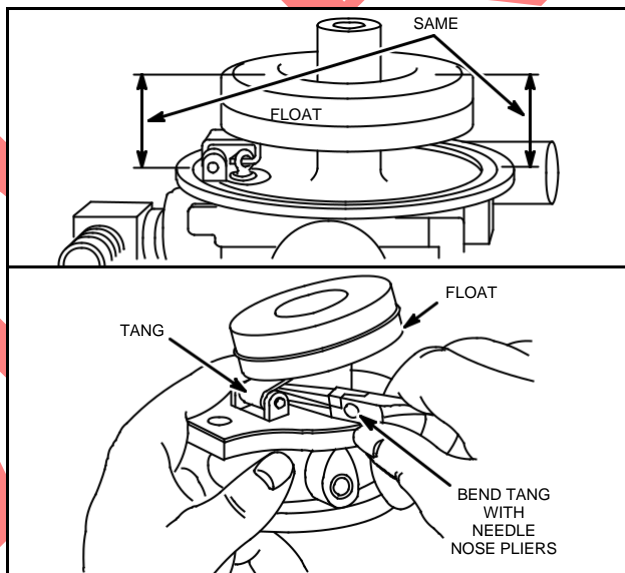

Fig. 265 - CHECKING FLOAT LEVEL
1. With body gasket in place on upper body and inlet needle and float installed, float should be parallel to body mounting surface, Fig. 265.
2. If not, bend tang on float until surfaces are parallel. DO NOT PRESS ON FLOAT, Fig. 265.